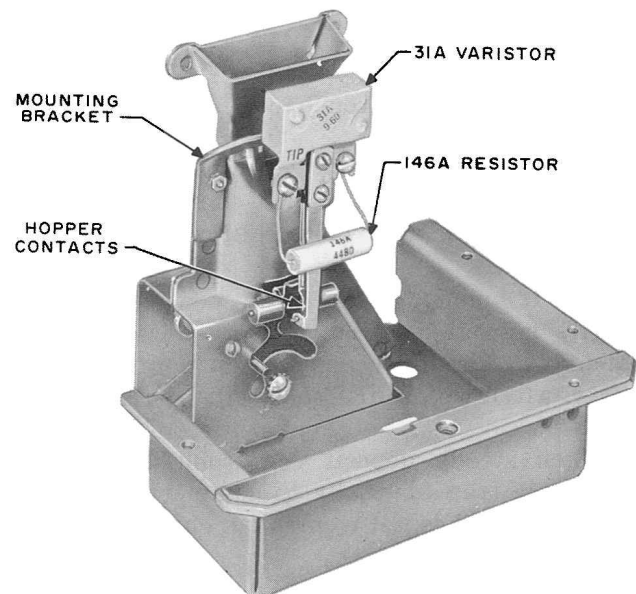

Fig. 2 — Current Mechanism Unit Assembly
- Add Fig. 2.
4.05 On the current mechanism unit assembly, 31A varistor and 146A resistor are mounted as shown in Fig. 2.